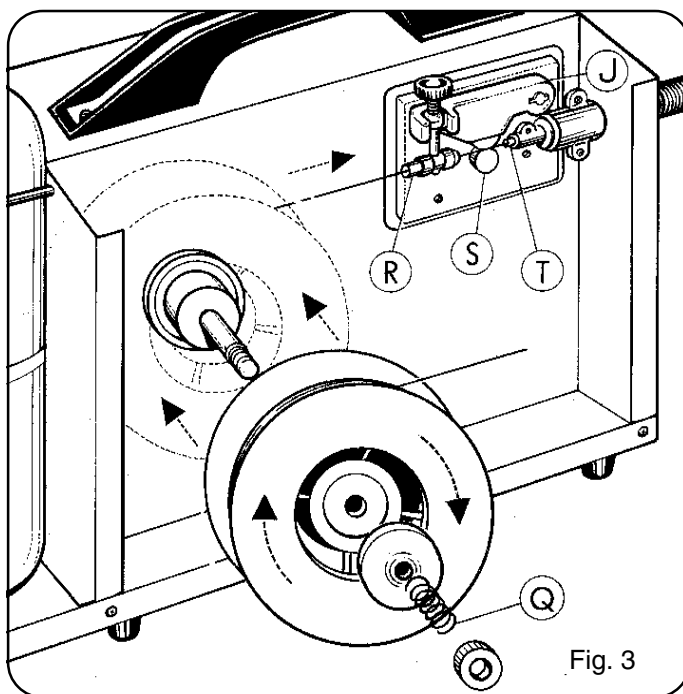

Fig. 3
Lower the wire holder group (U) taking care that the wire is remained inside the spline (groove) of the shaft.(fig. 3)